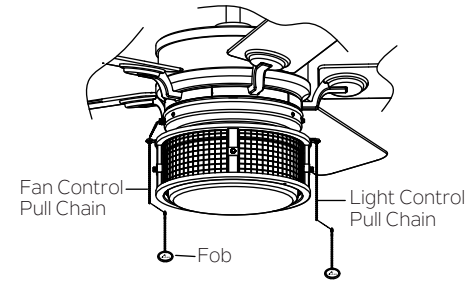

Fig. 5
Step 6. Attach each of the decorative fobs to the pull chains. (Fig. 5)